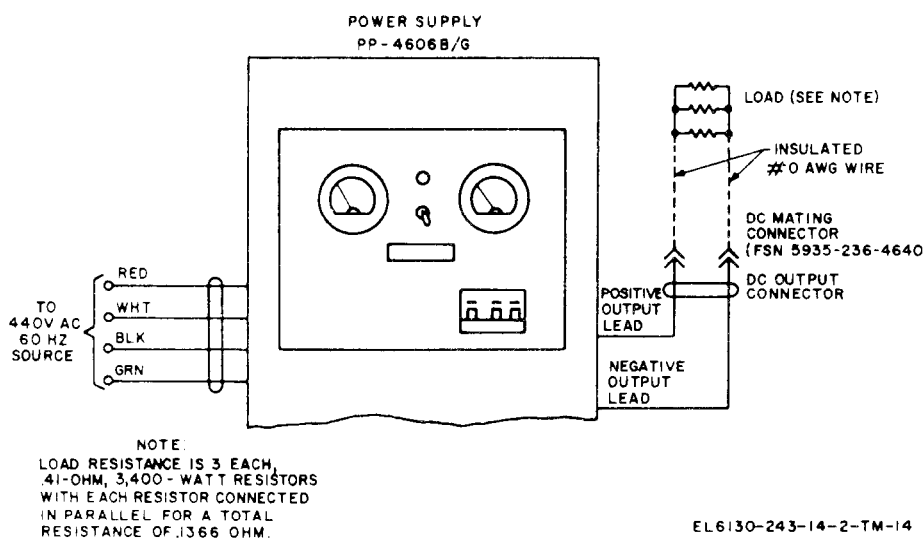

Figure 6-2. Connection diagram for output power test at 440-volt input.
(1) Resistance element, 0.41-ohm, 3,400-watt; 3 each.
(2) Power cable (as fabricated).
(3) Mating connector (FSN 5935-236-46-40).
b. Test Connections and Conditions. Connect the equipment as shown in figure 6-2. (This test is written for operation of the power supply at 440-volt ac.) *Do not* connect the load to the power supply until instructed to do so in the procedure given in *c* below.